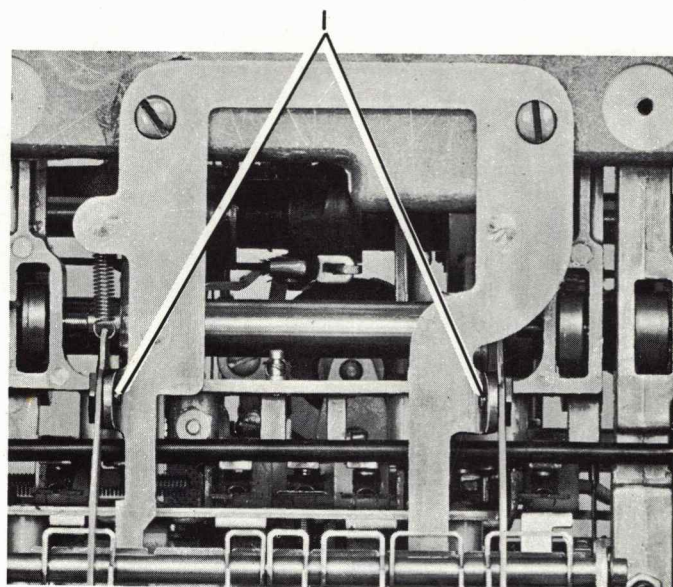

FIGURE 3. Cycle Clutch and Cycle Shaft Removal
8. Remove the two pivot screws (#1, Figure 3).